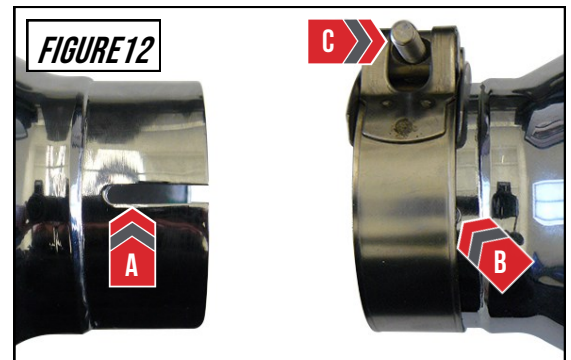

FIGURE 12
To accomplish the best tip fitment, align the 2.25" tip clamp to cover *only* the slot, as shown by **Arrow A** in **Figure 12**.
The clamp should only be covering the section of the tip that has been slotted, as shown by **Arrow B** in **Figure 12**.
- It is recommended to apply anti-seize to the threads to prevent thread binding, shown by **Arrow C** in **Figure 12**.